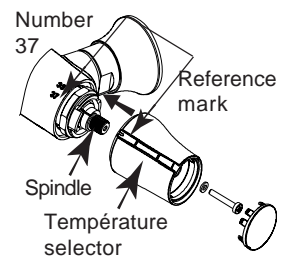

Fig. 9
- Install the temperature handle (without turning the spindle) lining the number 37 with the mark (fig.9).